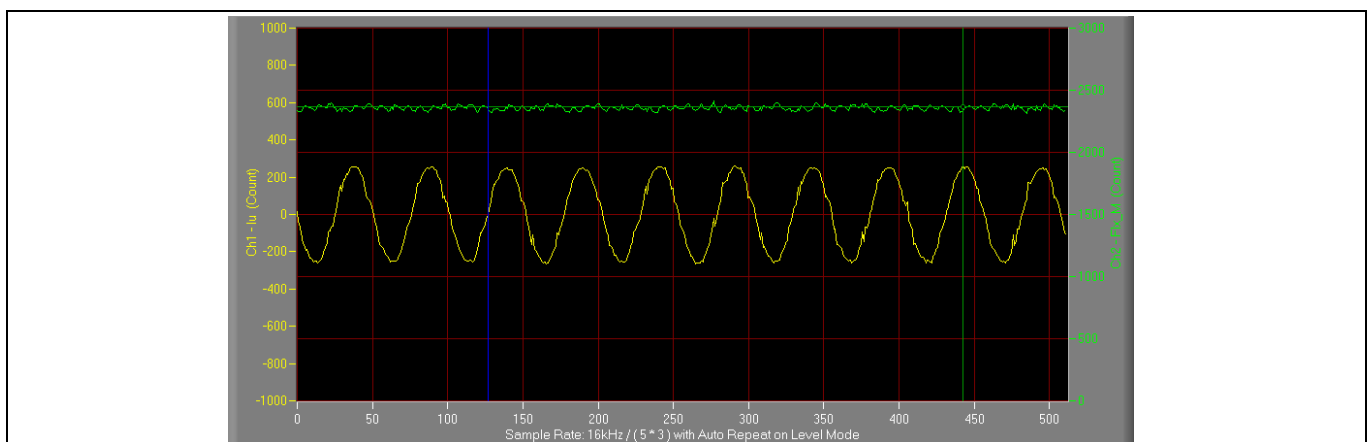

Figure 19 Trace waveform for Iu & Flx-M at 50% speed
3. Set TargetSpeed to about 50% of maximum speed, start “Iu & Flx_M” trace with “Auto Repeat on Level,” see Figure 19. Flx_M is good within the range of 2000~2500 (rated value is 2048), and must be steady and DC-like.